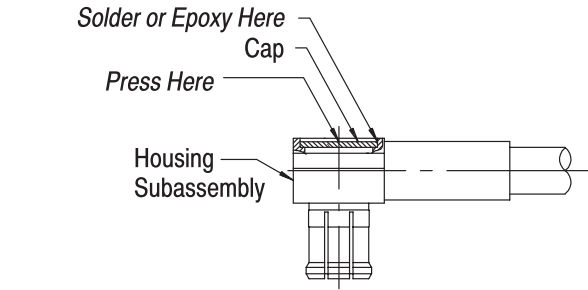

Figure 5
**2.4. Sealing the Housing Opening** (Figure 5)